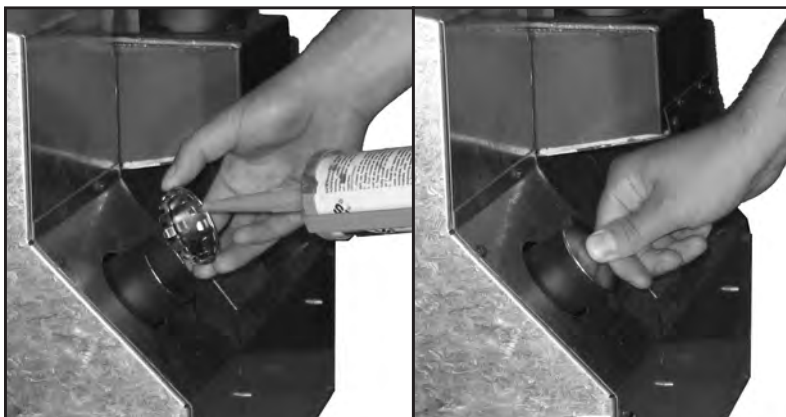

Figure 32: Install of Intake Air Plug.
- a) Place high temperature silicone on the outer surface of the ridges of the air intake plug (see Figure 32).